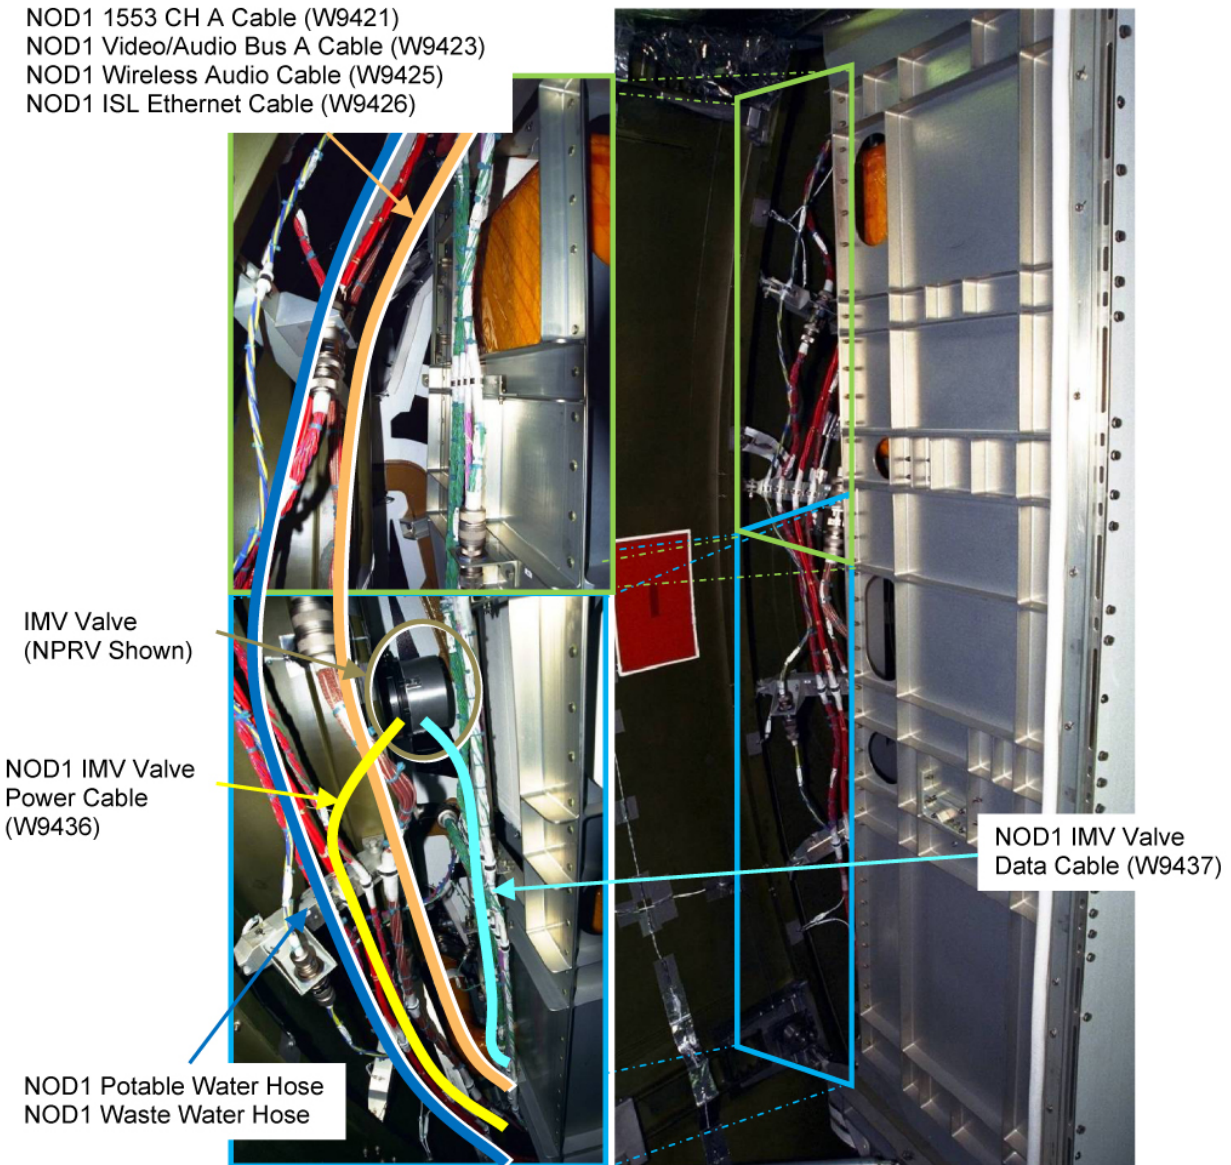

Figure 24. Node 1 Port Midbay.
- 13.2 Route fluid hoses (two) from top to bottom of Node 1 Port Midbay; these hoses have no EMI routing constraints. Recommend routing per Figure 24, near red cables. Restrain to secondary structure as required (Wire Ties).
- 13.6 Route bundle as shown in Figure 24, following existing W0205 harness from top to bottom of Node 1 Port Midbay.
- 13.8 Route NOD1 IMV Valve Power Cable (W9436) from newly installed IMV valve to bottom of Node 1 Port Midbay as shown in Figure 24.
- 13.10 Route NOD1 IMV Valve Data Cable (W9437) from newly installed IMV Valve to bottom of Node 1 Port Midbay as shown in Figure 24.